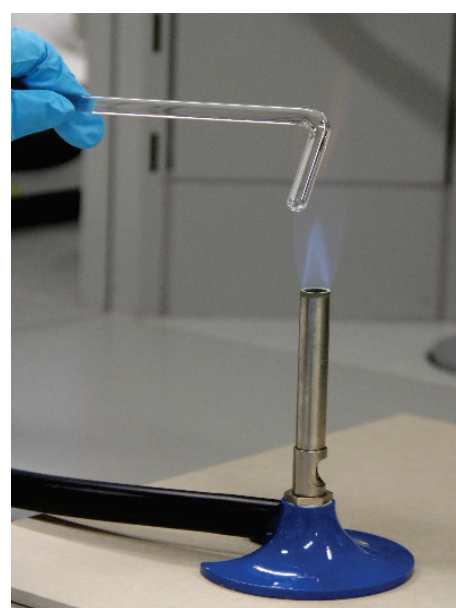

Fig. 14
16. Dip a glass spreader into the beaker of 70% ethanol. Pass it through the burner flame gently* and allow it to cool (Fig. 14).